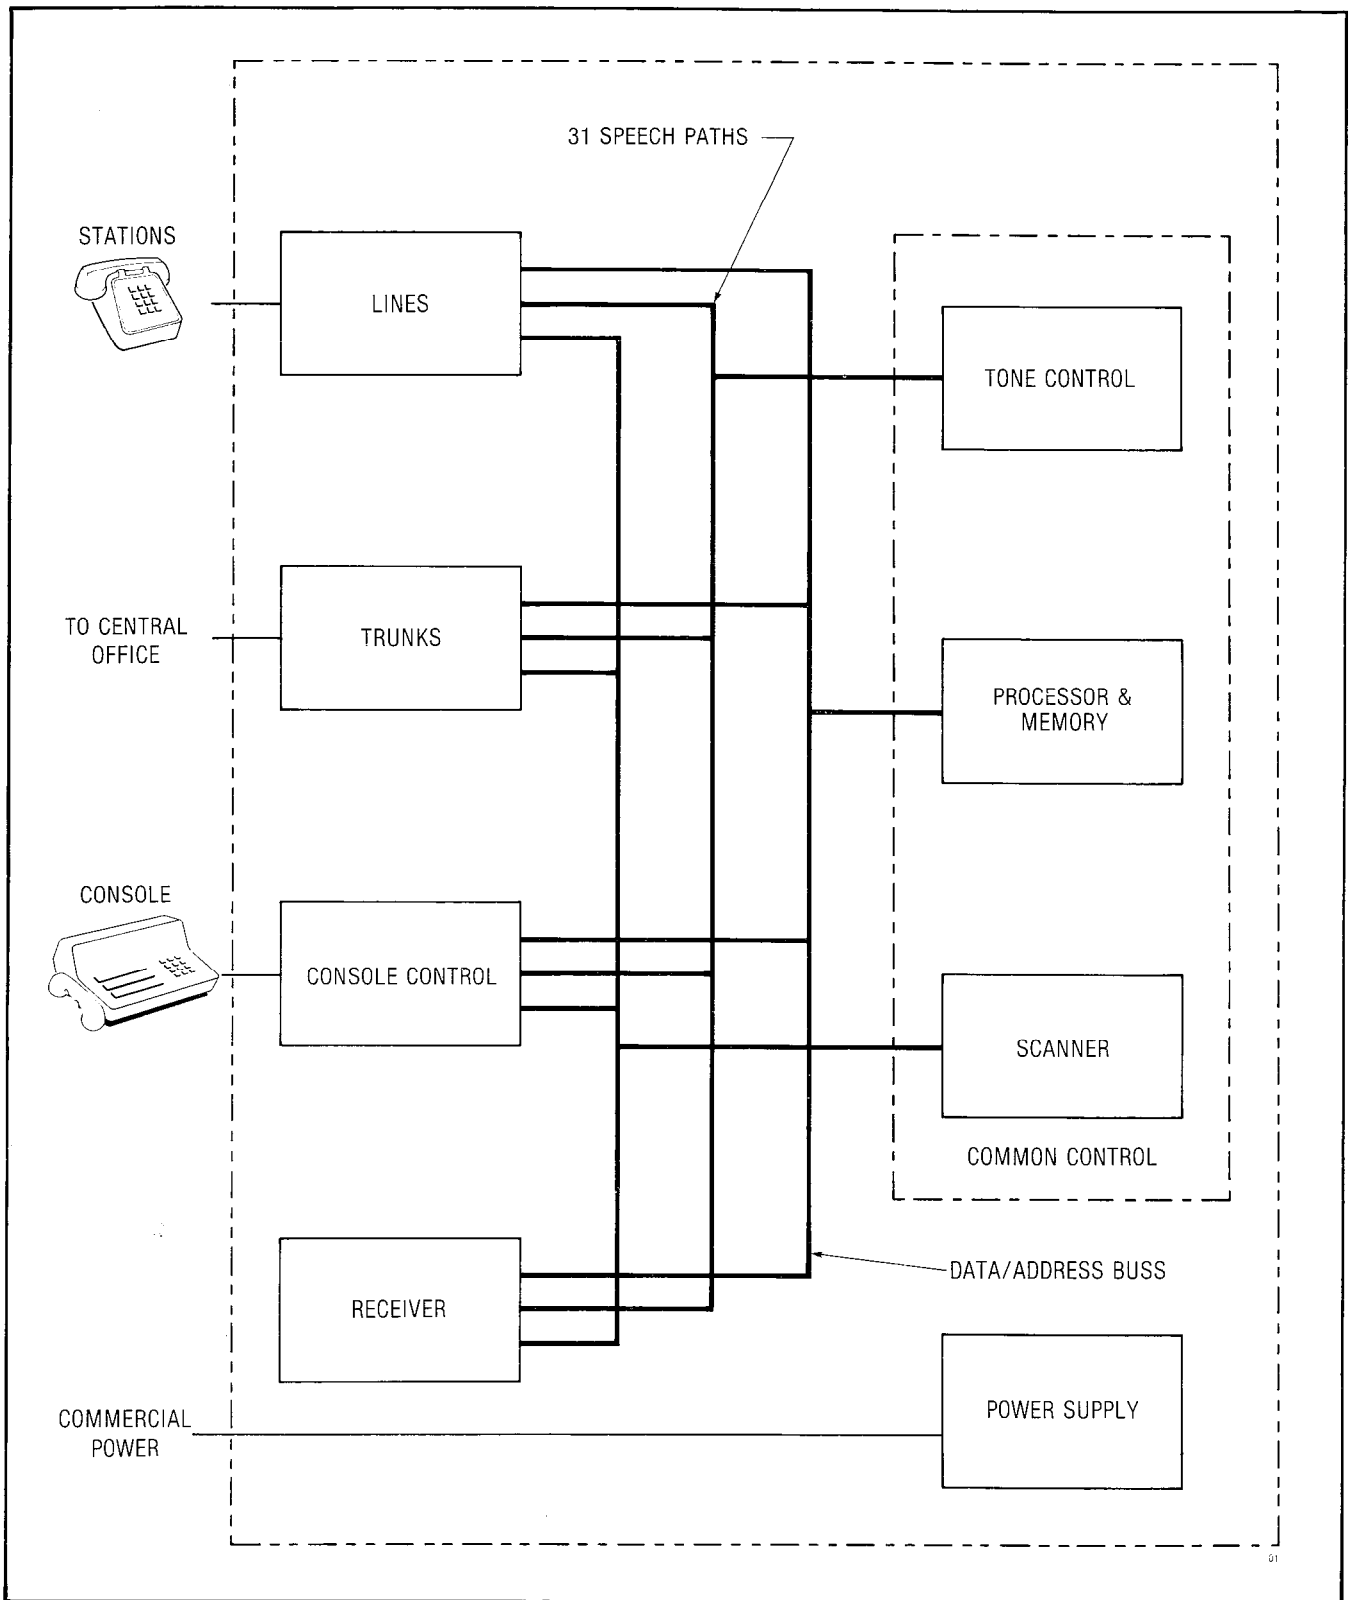

Fig. 3-1 SX-100 Block Diagram
3.01 The SX-100 is a solid-state PABX employing space division switching and microprocessor control of call processing. A block diagram of the PABX is shown in Fig. 3-1.